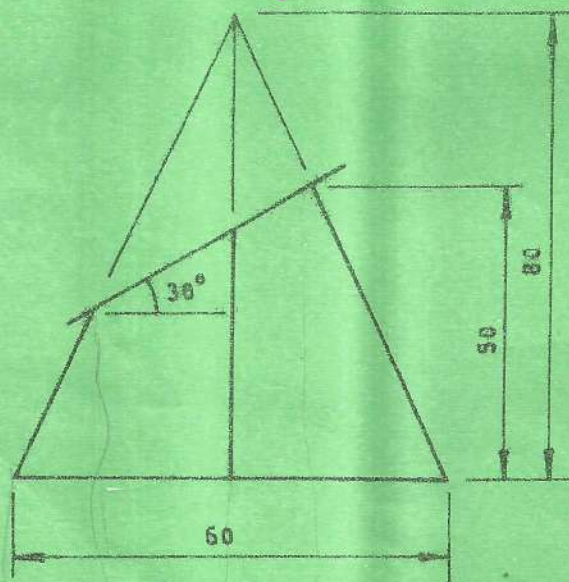

Fig. 6
5. **Figure 6** shows an elevation of a truncated hexagonal pyramid. Draw: